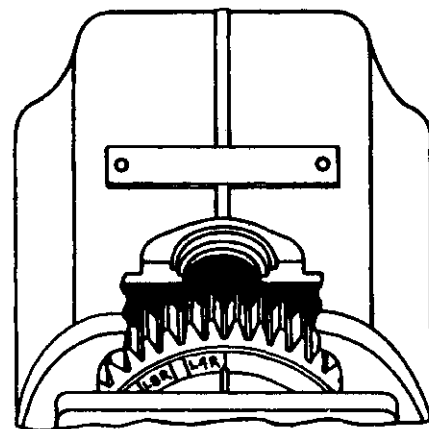

Figure 3. Alignment of Timing Marks on Distributor Gear — 4 Cylinder, Right Hand Rotation
- a. Four and eight cylinder, all types — The timing rib on the distributor block **MUST** align within 1/2 tooth either side of the "L" or "R" mark on the gear, depending on magneto rotation. (See figure 3.)